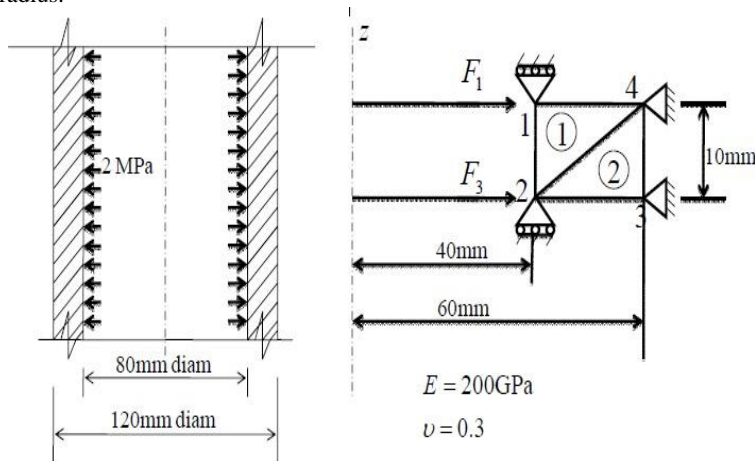

Fig. 5
- b) In the fig. 5, a long cylinder of inside diameter 80mm and outside diameter 120mm snugly fits in a hole over its full length. The cylinder is then subjected to an internal pressure of 2MPa. Using two elements on the 10-mm length shown; find the displacements at the inner radius.